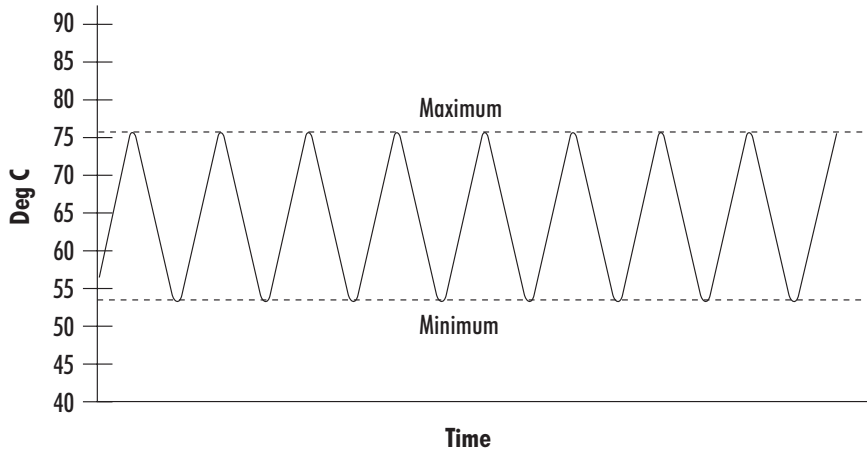

Figure 6 *Switch Test Data*
12. Collect data on a computer connected to the RS-232 port. Refer to Section 8 for instructions on configuring the RS-232 communications interface. The data may appear as shown in Figure 6. The maximum and minimum are the switch temperatures.